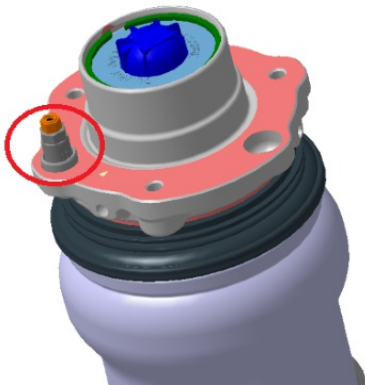

Figure 11
**NEVER** remove or disturb the retention valve (Figure 11).